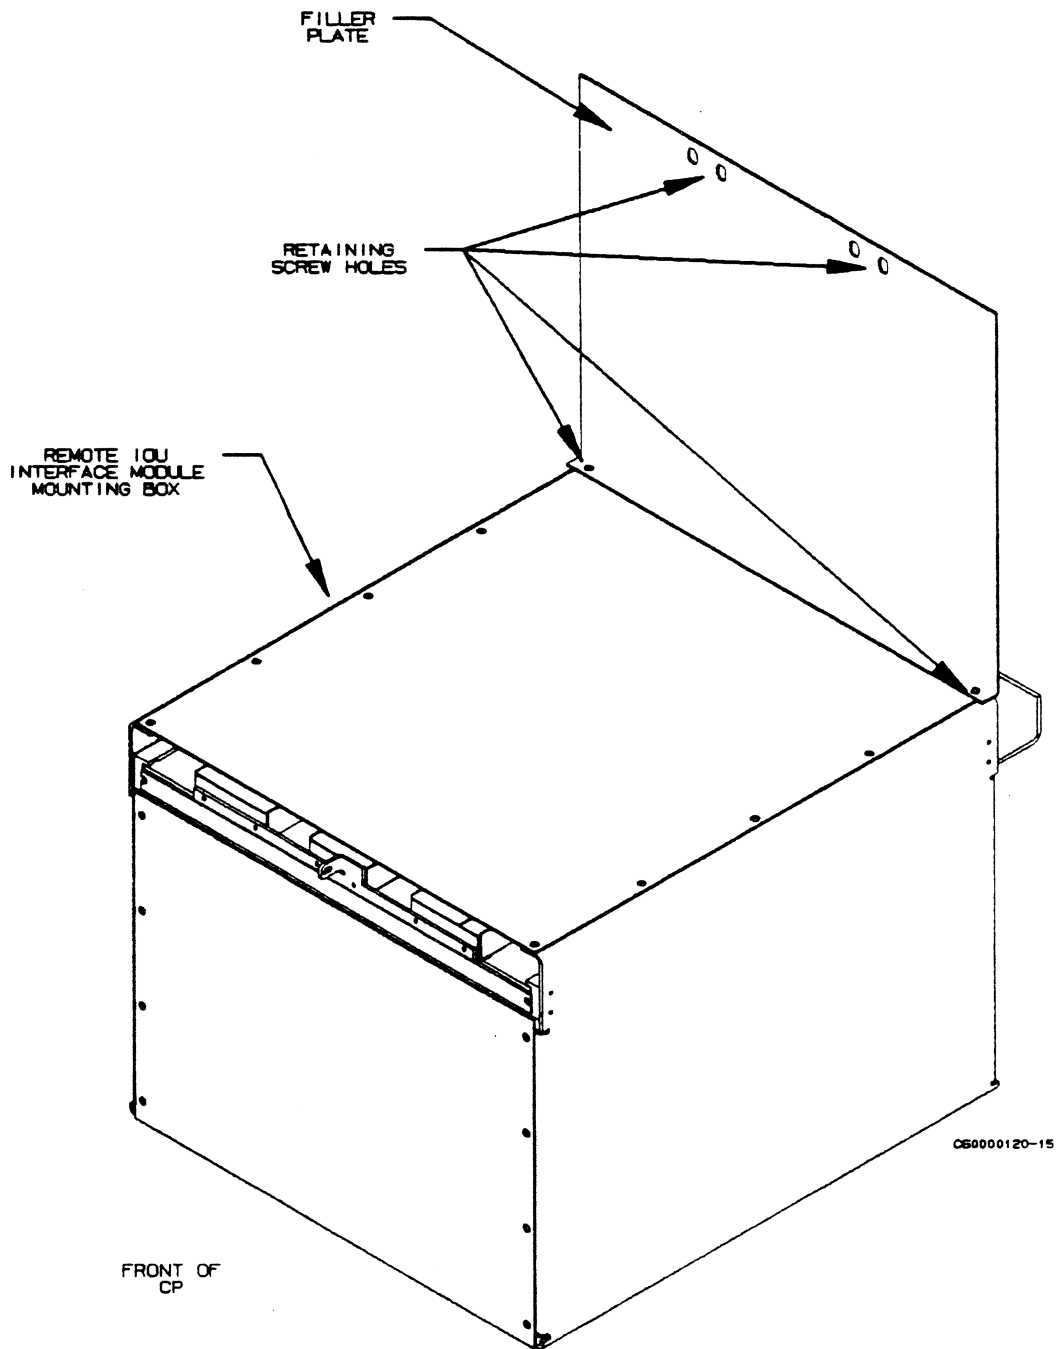

Figure 3-6. Filler Plate Removal
- b. If standalone IOU is present, remove filler plate retaining screws and filler plate from Remote IOU Interface Module mounting box as shown in figure 3-6.